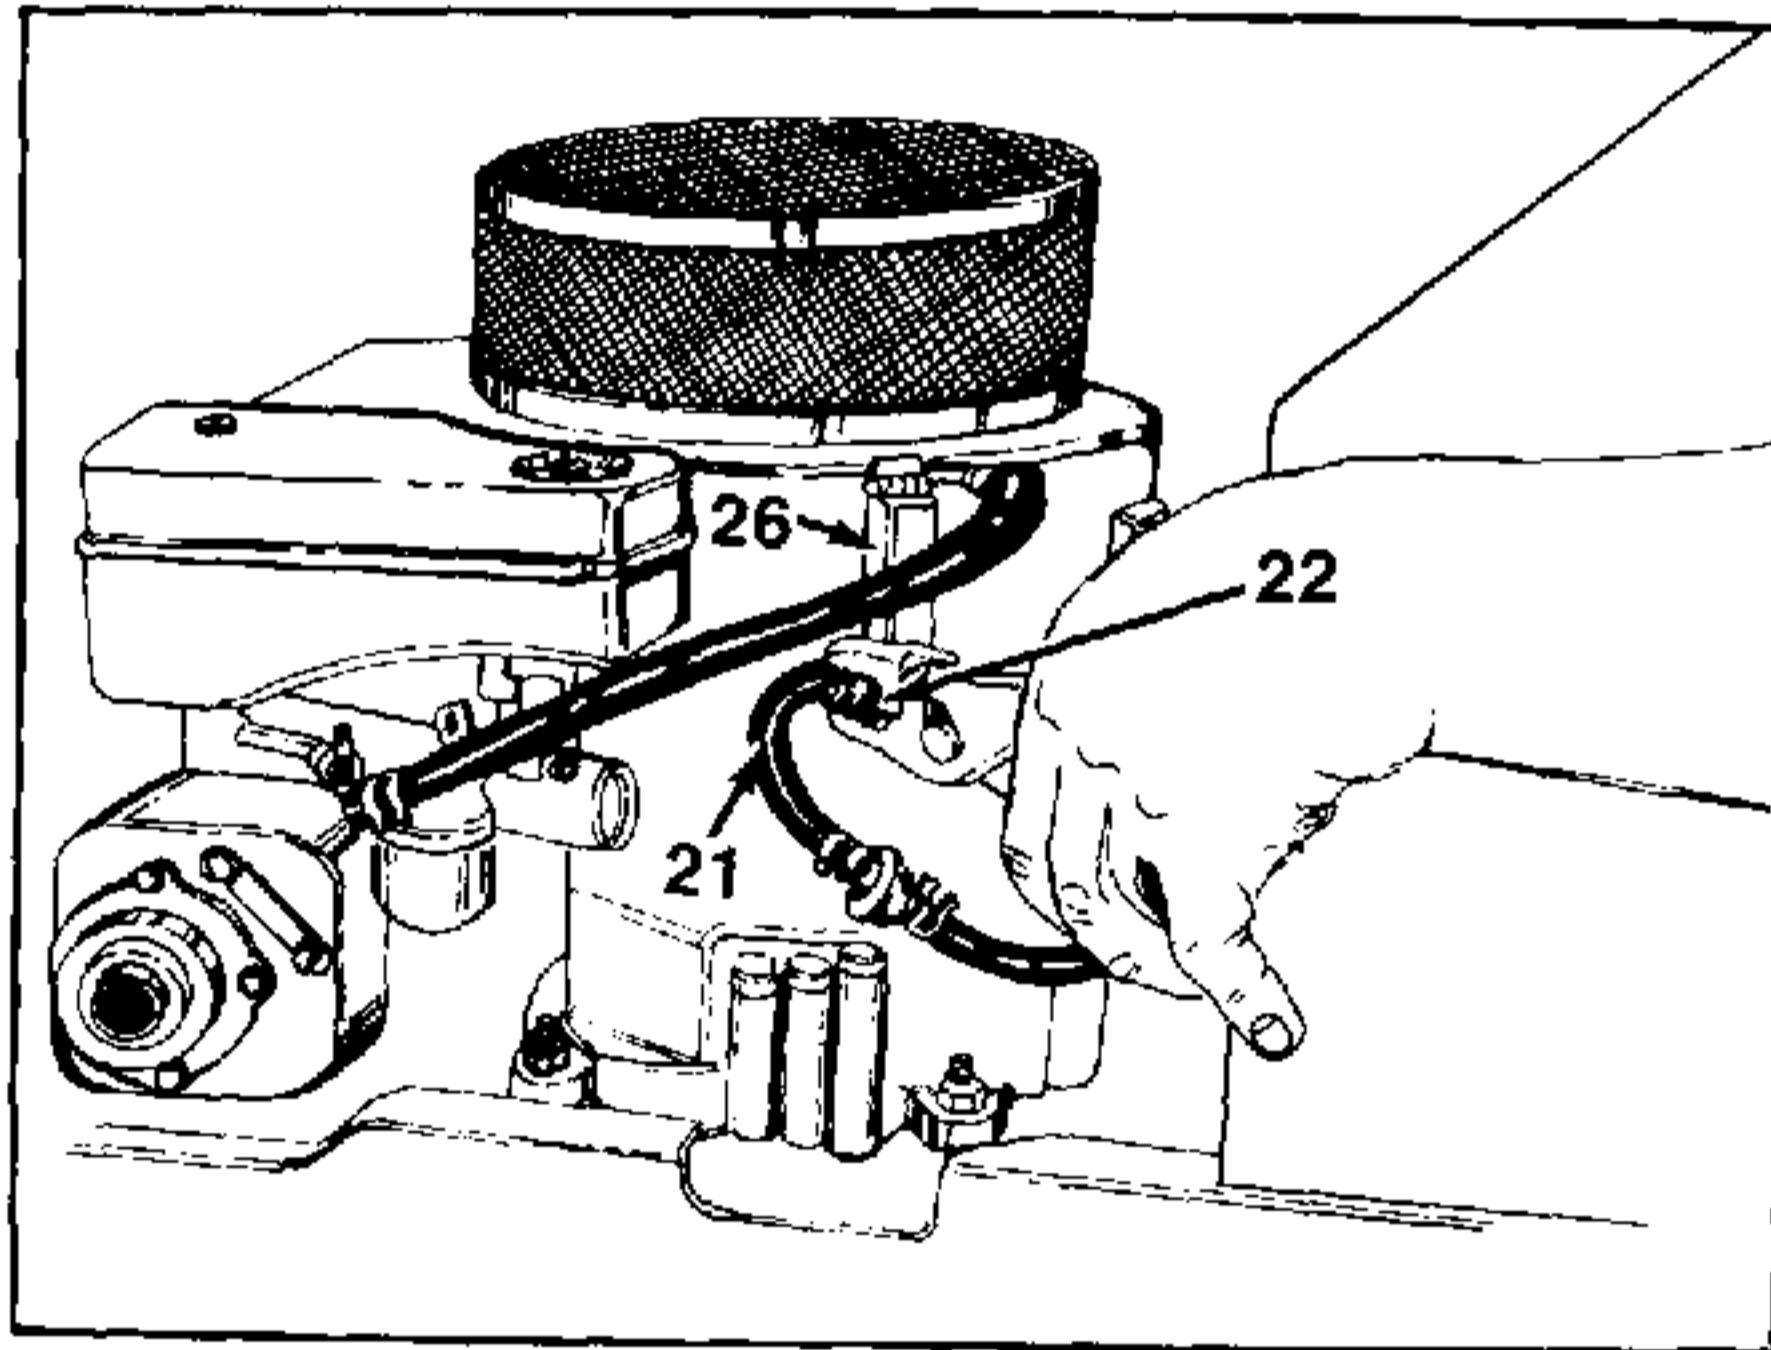

FIGURE 11.
10. Disconnect the fuel line (Ref. 21) and fuel line clamp (Ref. 22) from the fuel pump (Ref. 26). See figure 11.